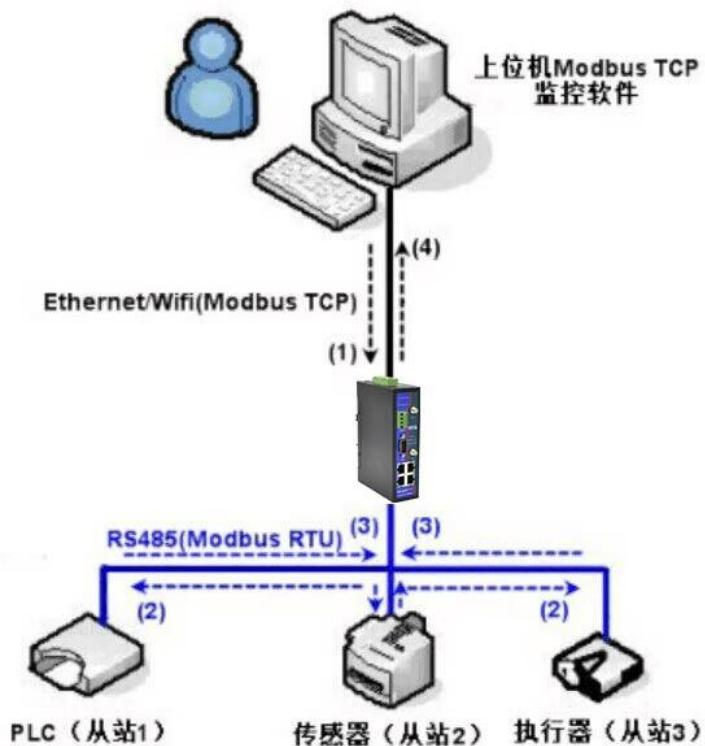

Figure 51 Working mode of storage Modbus gateway
As shown in Figure 51: The normal Modbus TCP data flow direction is (1) (2) (3) (4). That is, the Modbus TCP command is first converted into the corresponding command of Modbus RTU, then the device responds to the Modbus RTU command to the Modbus gateway, and then the Modbus gateway is converted into Modbus TCP again and sent to the monitoring host computer.